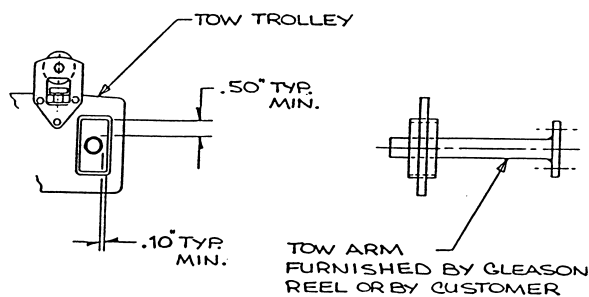

Fig. 5
2. The tow arm must protrude through the rectangular tube far enough to absorb any lateral movement. Clearance within the tube of 1.0" min. vertically and .20" min. horizontally will compensate for small vertical and large lateral movements. (Fig. 5)